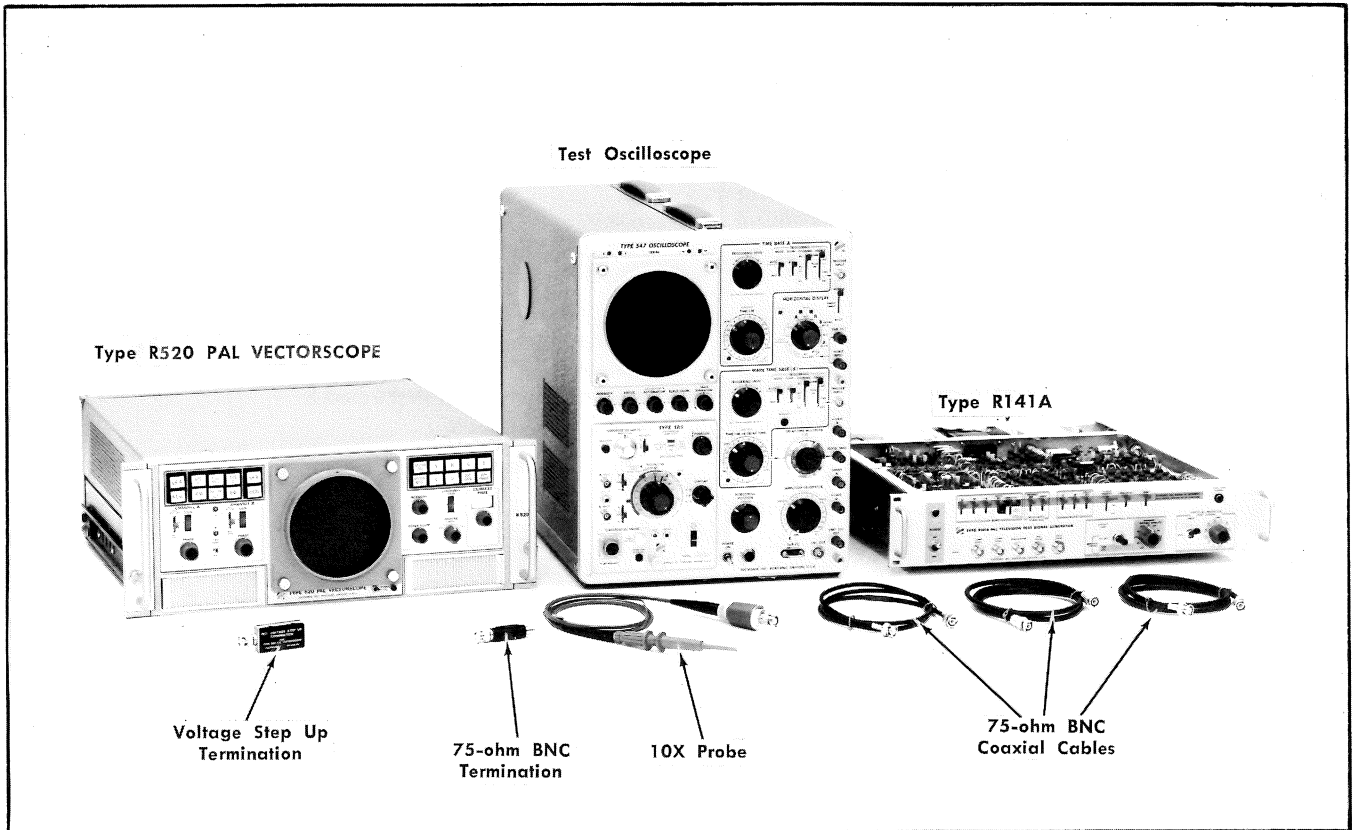

Fig. 5-14. Test equipment required for steps 11 through 16.
- a. Test equipment is shown in Fig. 5-14.